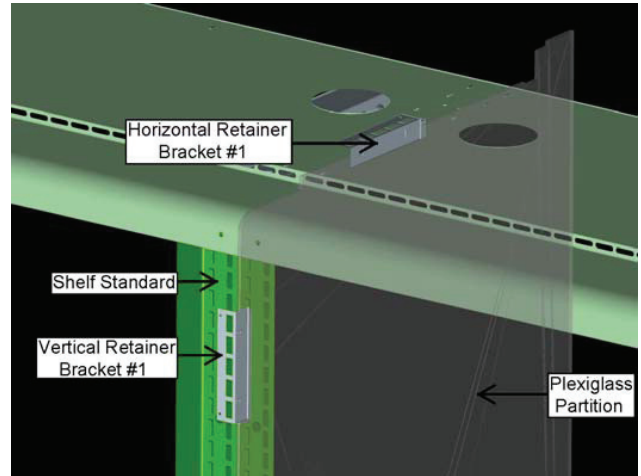

Figure 1: Top of Plexiglas Partition
Step 1: Mount the two vertical retainer brackets to the shelf standard (figures 1 & 2) using the supplied tek screws (8-18x3/4). The rectangular cutouts in the retainers must align with the rectangular slots in the shelf standard. Vertical Retainer Bracket #1 should be located below the 3rd slot from the top and Vertical Bracket #2 should be located above the 6th slot from the bottom. The grooves in the vertical retainer brackets must be centered on the case to case joint. The tek screws are to be drilled through the pre-drilled holes in the retainer brackets as shown in figure 3. Note that the vertical and horizontal retainer brackets are identical.